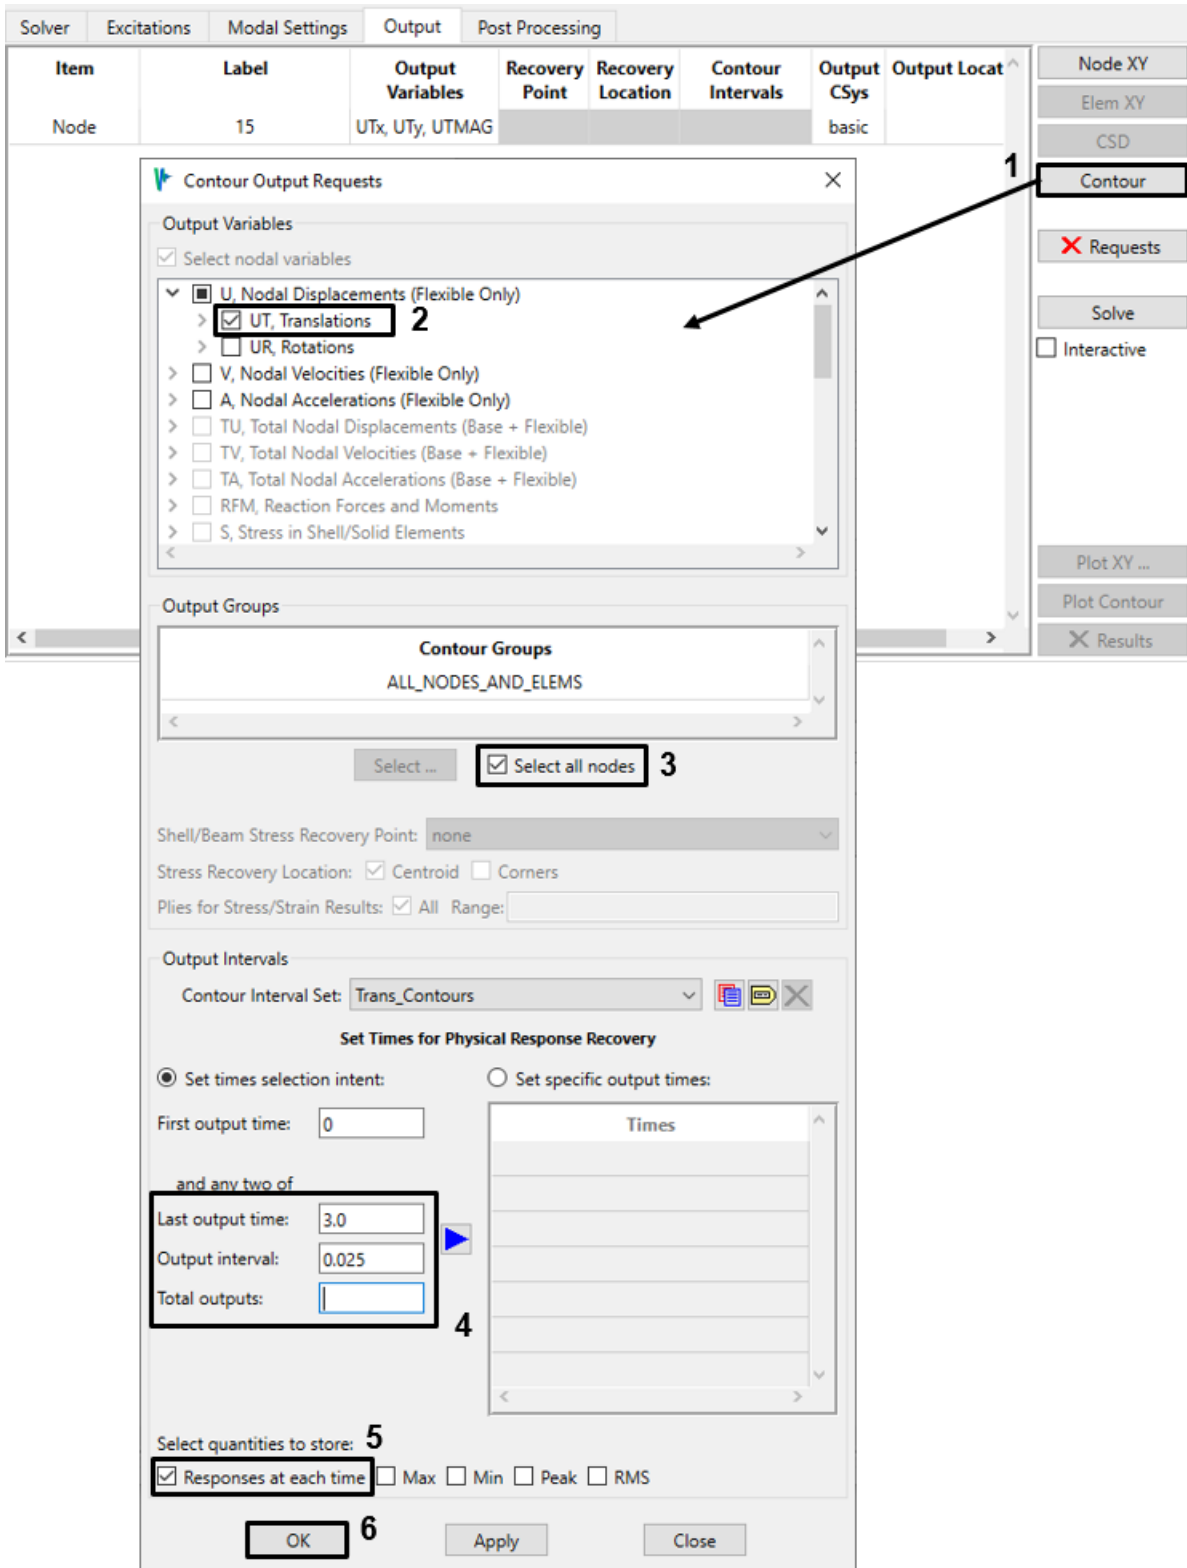
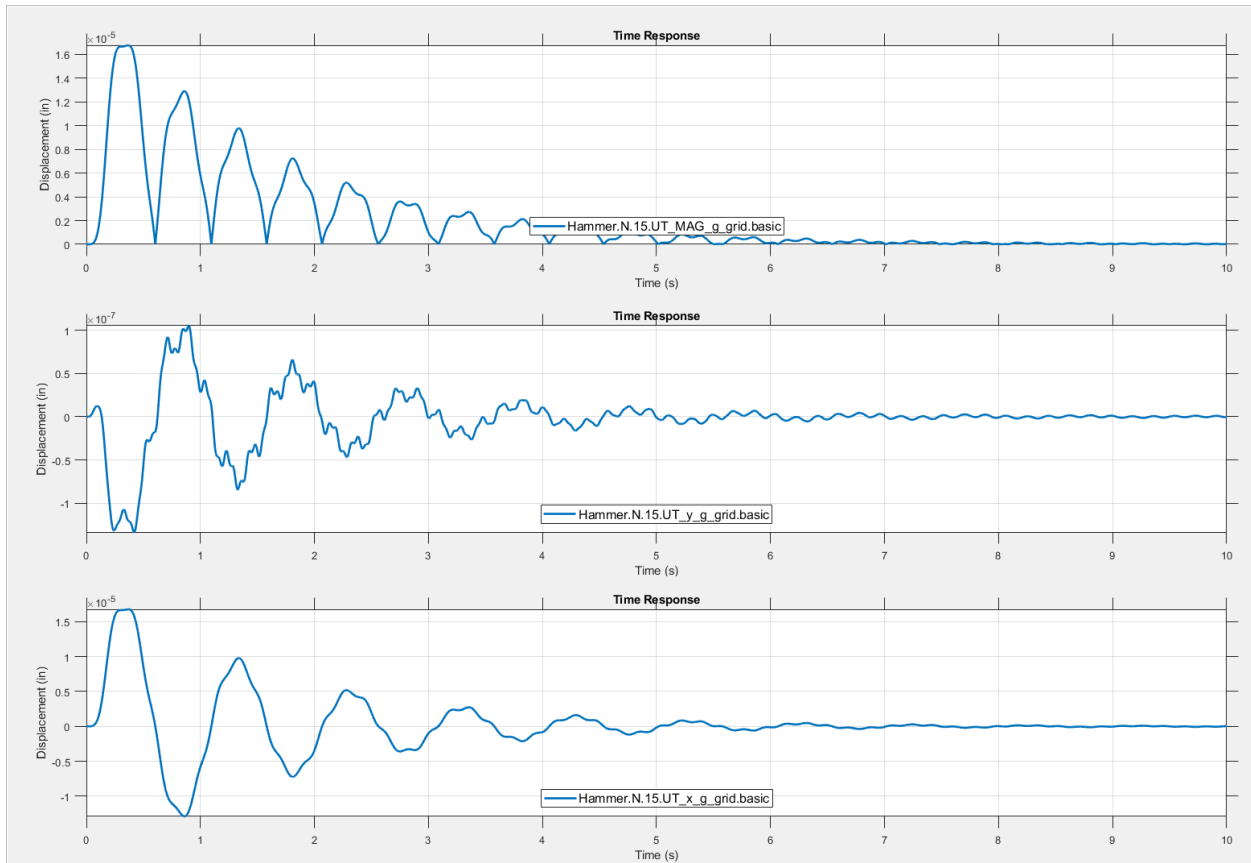

Figure 4-119. Request displacement (*UT*) contours for the first 3 seconds of the event.
Figure 4-120. Transient displacements for node 15.
- In order to create an animation of the structure in motion, create a contour request for displacement (UT) at all nodes (Figure 4-119). Enter 0.0 for the *First output time* and 3.0 for the *Last output time* to create contours from 0.0 to 3.0 seconds. We have selected 3 seconds as the end time because the structure's response will decay to about 30% of its maximum by then (see Figure 4-120). Set the *Output interval* to 0.025 (seconds) and leave *Total outputs* blank. This will produce 121 time frames for
- Solve the event. Click the **Plot XY** button to view the requested nodal displacement histories. These are shown in Figure 4-120 using the *stacked* plot mode. Note the different orders of magnitude on the Y-axis labels.